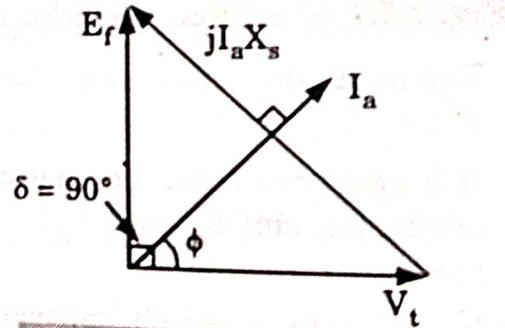

Fig. 2.5.3. Phasor diagram of generating machine at steady-state stability limit.
8. The machine is normally operated at  $\delta$  much less than  $90^\circ$ . The phasor diagram of a generating machine under condition of  $P_{e\max}$  is drawn in Fig. 2.5.3.